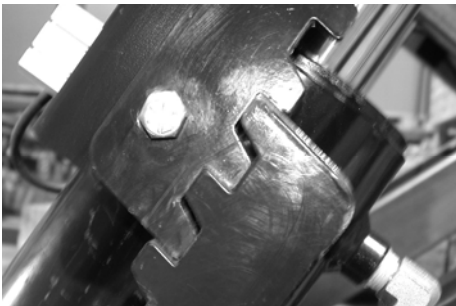

Figure 12-Safety lock position for bleeding.
3. Using the “BYPASS” button inside the console, start raising the lift to the last lock position as shown in Figure 12.
NOTE: Ensure the gauges inside the console are monitored and pressure does not reach 1000 psi. If 1000 psi is reached, lower the lift onto the locks to relieve the pressure. Continue to raise the lift until both sides of the lift are on the last lock position. (Figure 12)